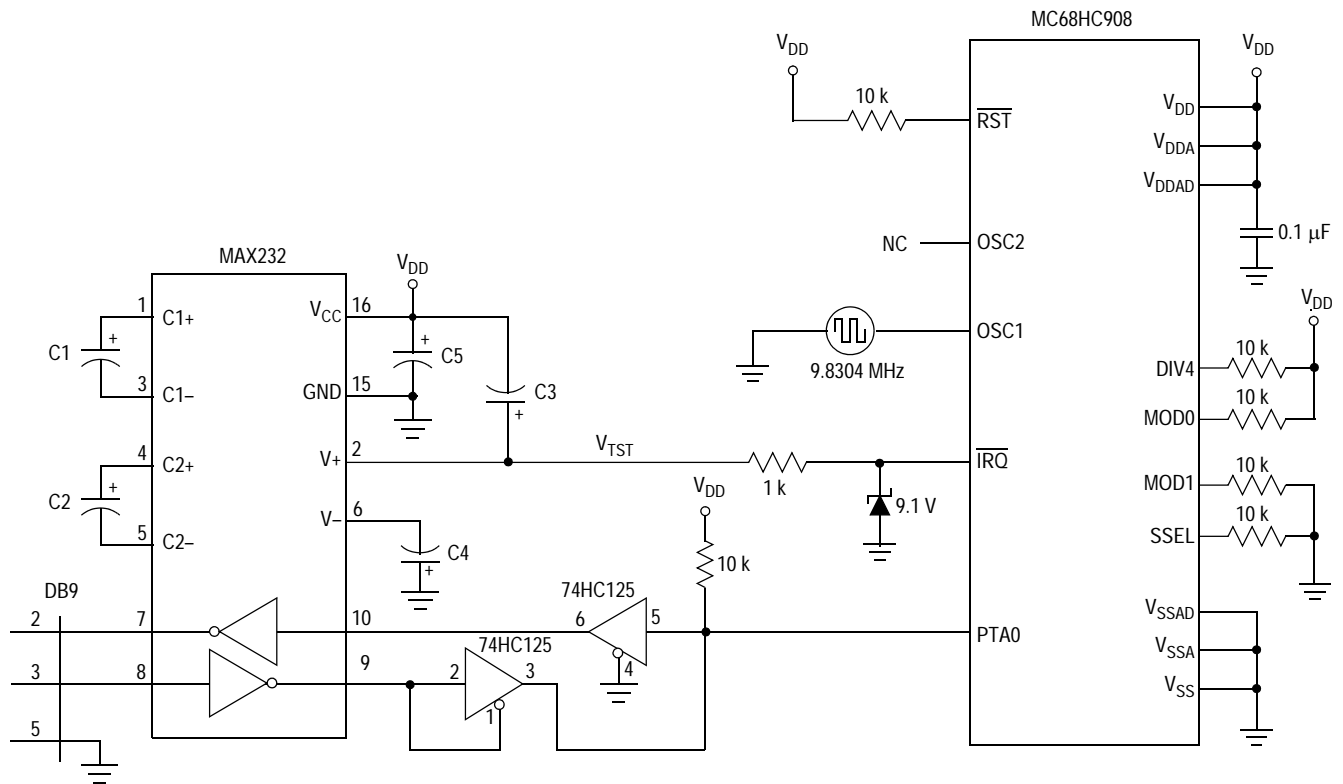
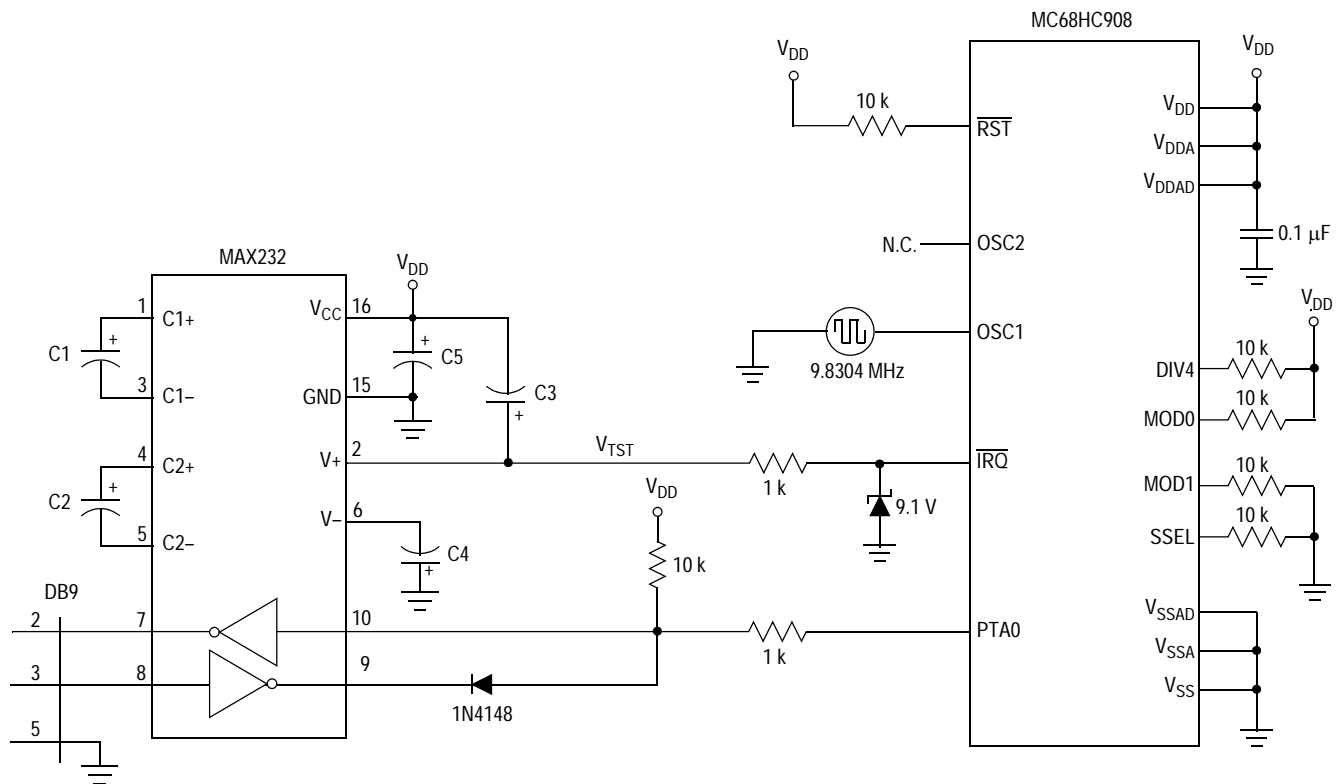
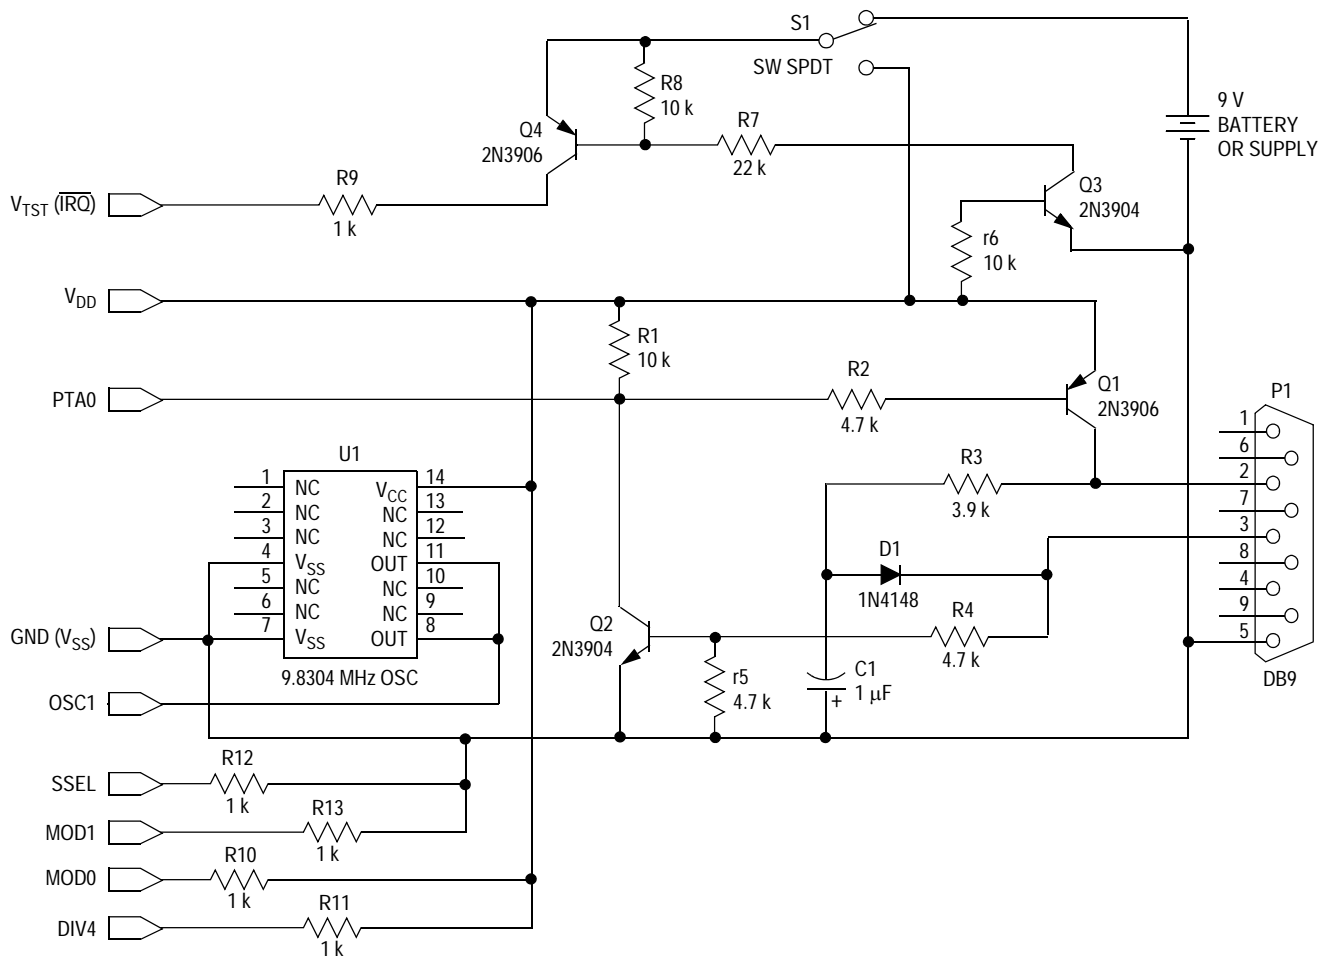
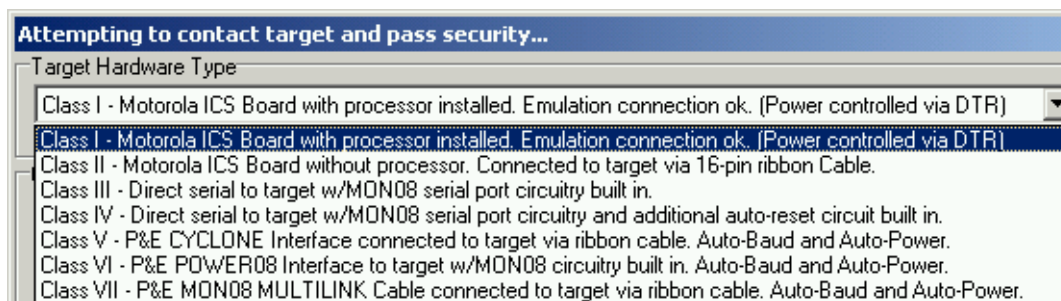

Figure 4. Normal Monitor Mode Circuit
Figure 5. Simpler Monitor Mode Circuit
Figure 7. Low-Cost MON08 Interface
Figure 10. Hardware Selection in P&E PROG08SZ
The normal monitor mode circuit in most M68HC08 data books looks something like that shown in Figure 4. The circuit to the left of the MCU in Figure 4 shows the MAX232 serial level shifter and the 74HC125 buffers that provide the bidirectional data switching for the serial communications on port PTA0. This portion can be used a stand-alone pod for monitor mode communication with many M68HC08 variants. Notice that we use the V+ supply from the MAX232 to provide the V_{TST} voltage for the \overline{IRQ} pin. The signal generator in the middle of the figure is usually a canned oscillator which can also be placed in the stand-alone pod.
A simpler implementation of the monitor mode circuit of **Figure 4** is shown in **Figure 5**. The two 74HC125 buffers are replaced by a resistor and diode. When PTA0 is outputting a 1, the input at the MAX232 pin 10 is held high. When PTA0 is outputting a 0, the input at pin 10 is driven low. The RS232 level at pin 8 is idling low which drives pin 9 to a logic one. This high level is blocked by the diode so there is no bus conflict. As an input, PTA0 idles high whenever pin 9 is high. When the MAX232 pin 9 goes low, the diode provides the path to pull the PTA0 input low.
The MAX232 shown in Figure 4 and Figure 5 can be used to supply the high voltage (V_{TST}) for monitor mode entry. The V+ output of the MAX232 supplies about 9 V for the RS232 communications interface, which is adequate for monitor mode entry. A zener diode and current limiting resistor complete the V_{TST} supply. The \overline{IRQ} pin draws about 200 μ A from the V_{TST} supply when monitor mode is selected.
Another way to get the V_{TST} voltage is by switching a 9 V battery or power supply to the \overline{IRQ} pin. An example of a switching circuit is shown in Figure 7 below. The supply voltage should be limited to 9 V to meet the V_{TST} spec. The 1 k Ω series resistor (R9) is a simple current limit for the V_{TST} supply.
Figure 7 shows another implementation of a custom MON08 interface. This circuit was modified from a low-cost RS232 interface found on several Internet sites. The central part of the circuit, composed of transistors Q1 and Q2, diode D1, capacitor C1, and resistors R1 – R5, is a simple level shifter between the 0 V and 5 V levels on the PTA0 pin and the –8 V to +8 V levels from the PC's serial port. This circuit actually transmits –5 V to +5 V levels due to the negative pull down at C1 and V_{DD} pullup at Q1. Q1 and Q2 can be any general-purpose PNP and NPN transistors, respectively. Resistor R3 can be trimmed to provide the best negative voltage swing for the transmitter signal at the DB9's pin 2.
The bottom part of the circuit in Figure 7 is an optional way to route the appropriate levels for monitor mode selection to a target system that requires the external bias.
P&E's ICS08 software packages contain the WinIDE integrated development environment, which pulls together an assembler, in-circuit simulator, memory programmer, and in-circuit debugger. The programmer and debugger work with any MON08 hardware interface, as shown in the target hardware type menu in Figure 10. Class III is used with the MON08 interfaces in Figure 4, Figure 5, and Figure 7, above. Classes V and VII are used with the Cyclone and Multilink pods, respectively.
The following examples illustrate how to program and debug an M68HC908GT16 MCU with P&E's PROG08SZ and ICD08SZ tools. The MON08 pod in this example is a custom version of the circuit shown in Figure 4.
6. From Target Hardware Type, select Class III (see Figure 10).
Here are the main steps in programming the FLASH with CodeWarrior in normal monitor mode and starting a debug session. This example was built with PEDebug as the project stationery and QT4 absolute assembly. This example also uses the low-cost MON08 circuit from Figure 7 as the MON08 pod.
7. Select the appropriate class in Target Hardware Type (Class III for low-cost MON08 circuit from Figure 7) and baud rate.